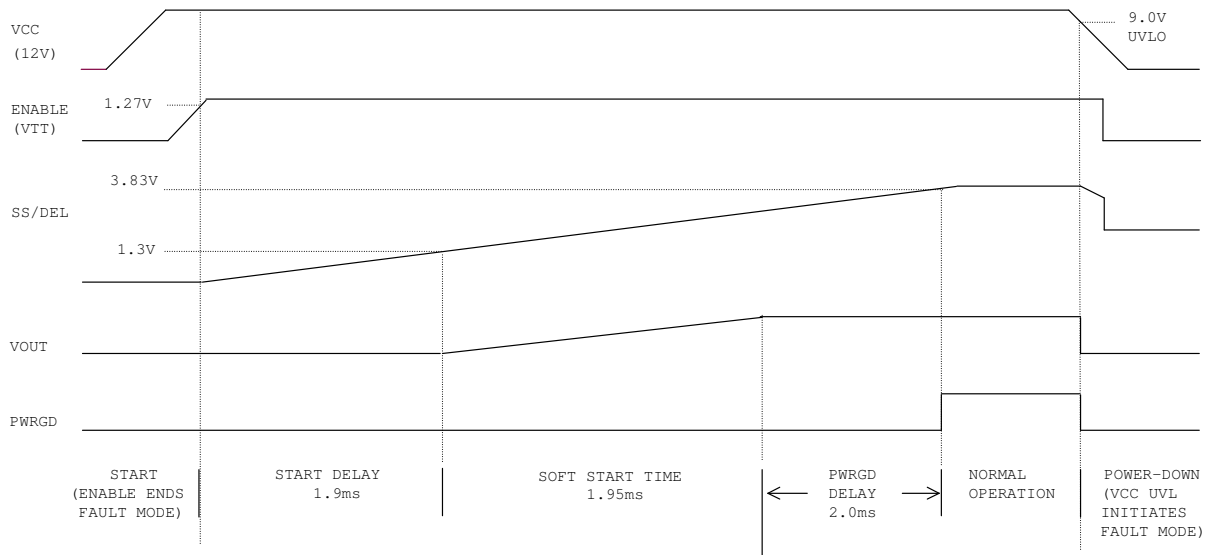

Figure 10 – Start-up Waveforms
The IR3082A has a programmable soft-start function to limit the surge current during the converter start-up. A capacitor connected between the SS/DEL and LGND pins controls soft start as well as over-current protection delay and hiccup mode timing. A charge current of 55 $\mu$ A and discharge current of 5 $\mu$ A control the up slope and down slope of the voltage at the SS/DEL pin respectively. Soft start-up waveforms are shown in Figure 10.
The SS/DEL pin voltage controls the slew rate of the converter output voltage, as shown in Figure 10. After the ENABLE pin voltage rises above 1.27V, there is a soft-start delay time tSSDEL, after which the error amplifier output is released to allow the soft start. The soft start time tss represents the time during which the output voltage rises from zero to Vo. tss can be programmed by an external capacitor, which is determined by Equation (1).